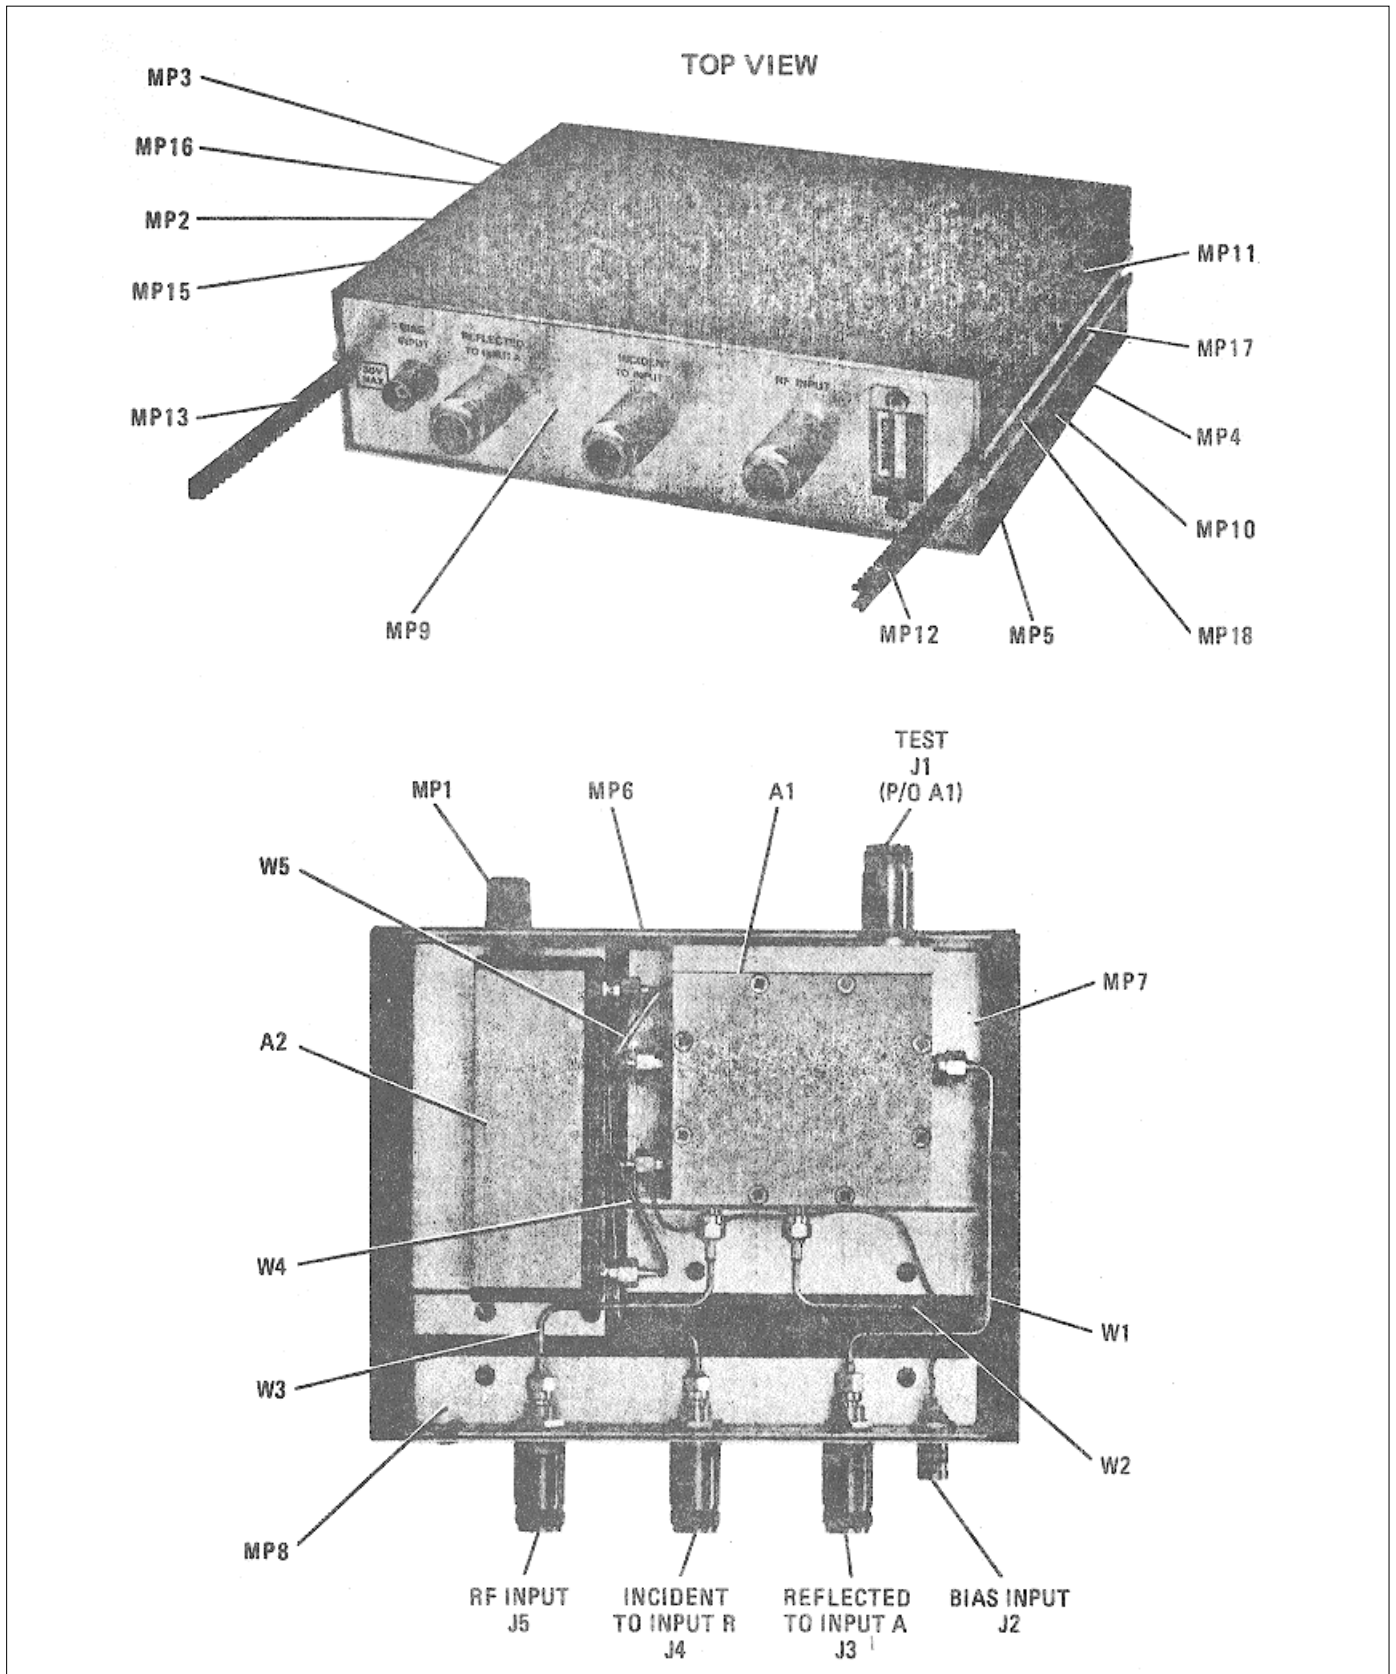

Figure 21. Major Assemblies and Parts Locations39
52. Replaceable parts are listed in Table 7 and identified in Figure 21. Parts of Type N Connector Assembly (J3, J4, and J5) are shown in Figure 22. 8502A attaching hardware (screws, washers, etc.) is listed and identified in Figure 23.
- d. Remove cables W1, W2, and W3 from Directional Bridge A1. (See Figure 21.) Use 5/16 open-end wrench to loosen cable connectors.